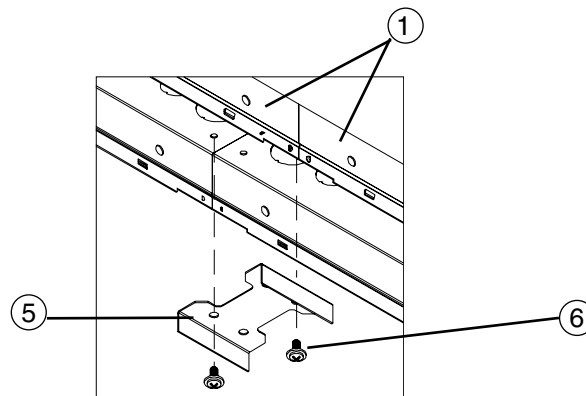

Figure 4
9. **Remove endplate from Housing assembly (1)** to install alignment bracket.
10. **With fixtures installed end to end-** install bracket (5) with two screws (6) provided. One screw per fixture as noted in **Fig. 4.**